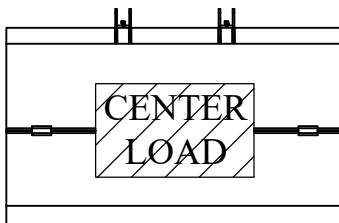

Figure 7: Step 8.
8. To load and use the liftgate, center the load on the platform side to side and front to back (Figure 7). Put heavier loads as close to the front of the platform (near truck) as possible. Platform cart stops may be actuated at this time, if equipped.